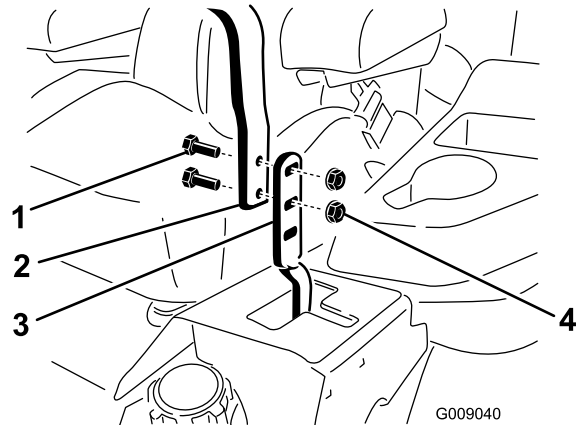

Figure 94
3. Loosen the bolts and flange nuts installed in the levers (Figure 94).